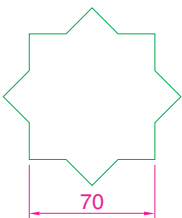

Fig. 15.10 Example – 3D Array – the star pline
1. Construct the star-shaped pline on a layer colour green (Fig. 15.10) and extrude it to a height of **20**.